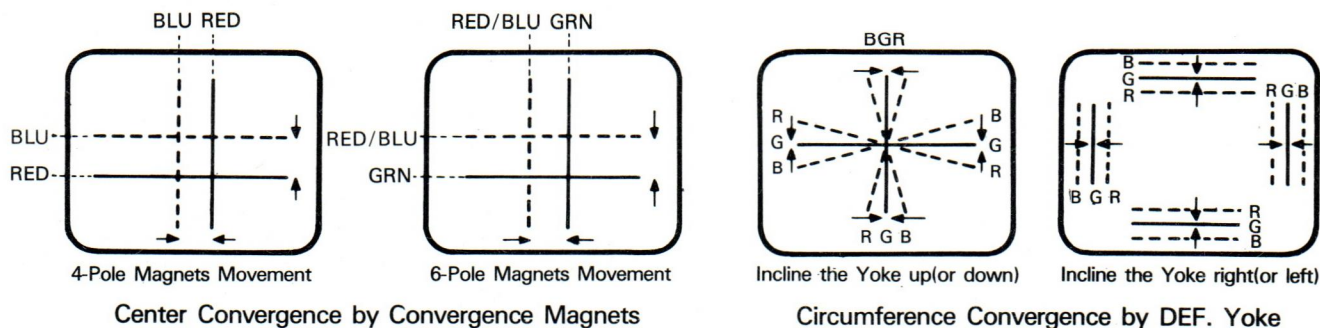

Fig 4 Dot Movement Pattern
3. Adjust two tabs of the 4-Pole Magnets to change the angle between them (See figure 3) and superimpose red and blue vertical lines in the center area of the picture screen. (See figure 4).
4. Turn both tabs at the same time keeping their angles constant to superimpose red and blue horizontal lines at the center of the screen. (See figure 4).
2. Place a wedge as shown in figure (2) temporarily. (Do not remove cover paper on adhesive part of the wedge.)
3. Tilt front of the deflection yoke up or down to obtain better convergence in circumference. (See figure 4) Push the mounted wedge into the space between picture tube and the yoke to hold the yoke temporarily.
5. Tilt front of the yoke right or left to obtain better convergence in circumference. (See figure 4).